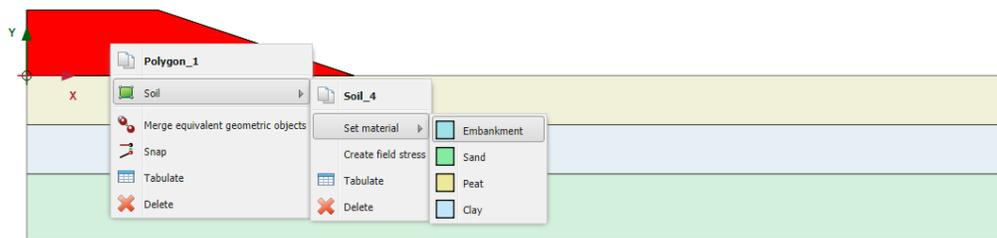

Figure 108: Assignment of a material dataset to a soil cluster in the drawing area
3. Select and right click the created polygon and assign the **Embankment** data set to the soil polygon as shown in Figure 108 (on page 131).